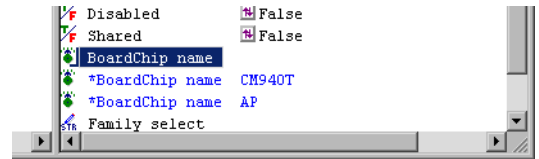

Figure 3-8 Linking a second board
4. Select the name of the required group, for example **CM940T**. You might have to select the **<More...>** option to find the group you require. A new entry is displayed in the right pane with an asterisk `*` beside it, shown in Figure 3-8 on page 3-15 (that is `*BoardChip_name CM940T`).